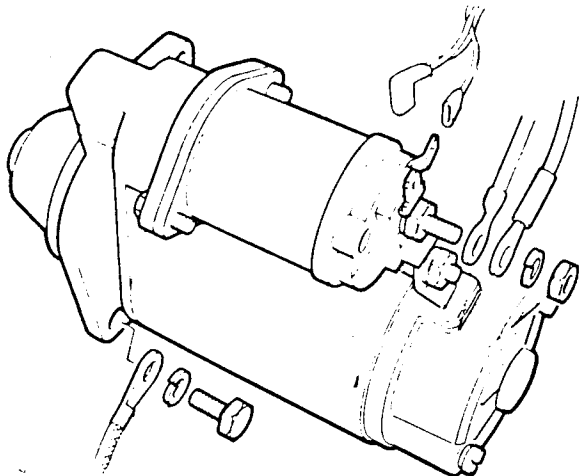

Fig B4.1
- (8) Refer to Fig B4.1. Disconnect five electrical leads from the starter motor.